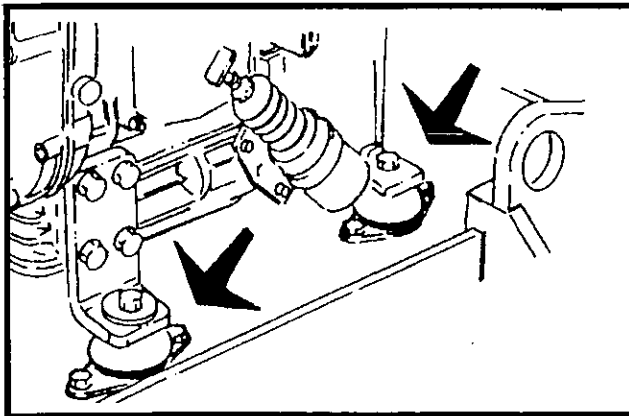
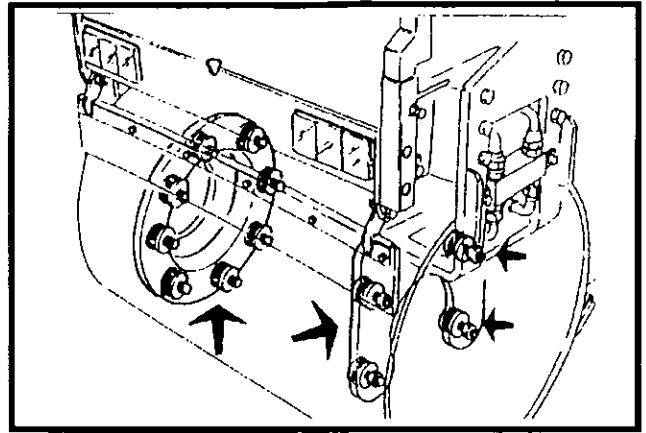

Figure 5-5 Engine Shock Mounts
Figure 5-6 Drum Shock Mounts
1. Check all engine shock mounts ( Figure 5-5) and drum shock mounts (Figure 5-6), periodically for looseness or deterioration.